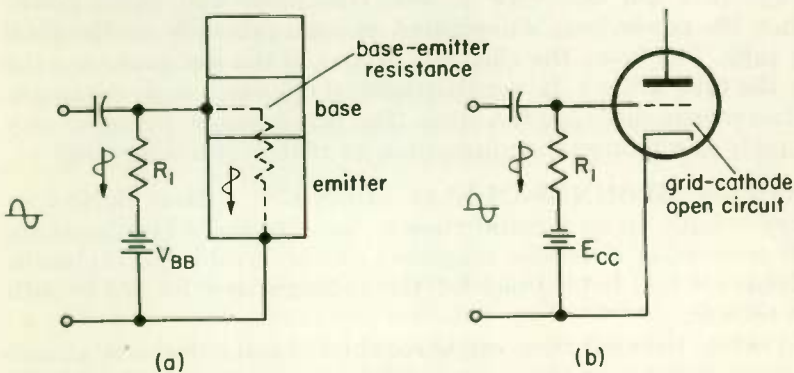

Fig. 42 Transistors have a low input resistance compared to vacuum tubes.
24 **COMPARING TUBES AND TRANSISTORS AS AMPLIFYING DEVICES . . .** You have seen that both tubes and transistors are variable-resistance amplifying devices. There is one important difference in their operation which you should be sure to understand. In a transistor the a-c input signal current actually flows into the base of the transistor, while in a vacuum tube no current can flow into the grid. This difference is shown in Fig. 42. The input signal to the transistor sees not only the resistance R_1 but also the resistance offered by the transistor from base to emitter.
1. In Fig. 42(a), if R_1 is chosen to be 1 megohm and the base-emitter resistance is 500 ohms, the input signal will see these two resistances in parallel. In other words, the input signal will see a total resistance of _____ ohms.
2. In Fig. 42(b) there is effectively an open circuit from grid to cathode. If R_1 is chosen to be 1 megohm, the input signal will see a total resistance of _____ ohms.